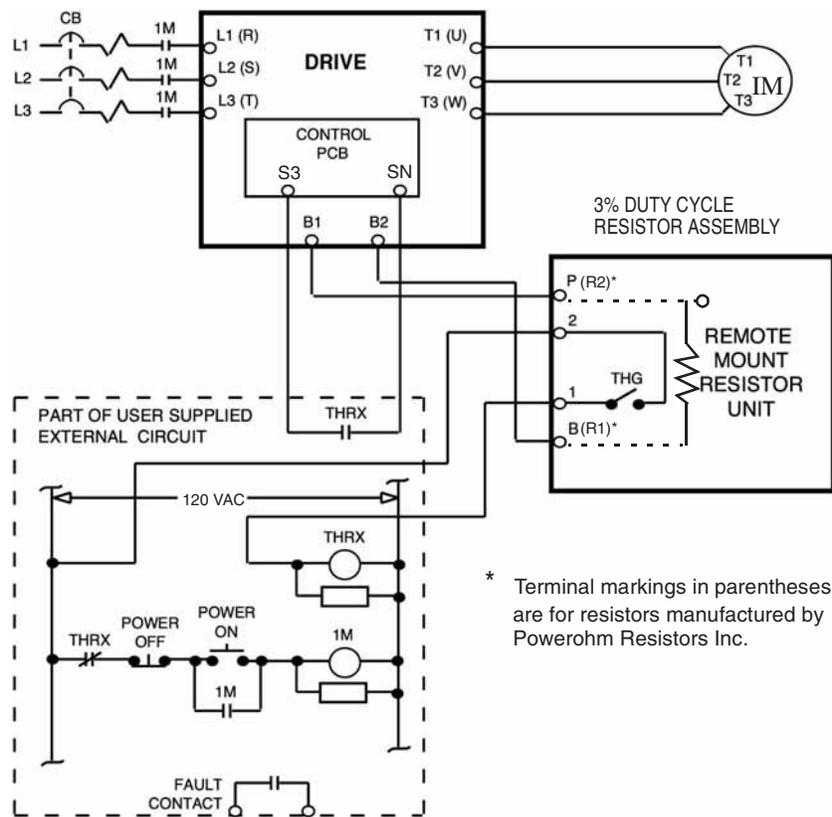

Fig 2.6 Wiring Remote Mount Resistor Unit (for P7U20P4 thru P7U2018 and P7U40P4 thru P7U4018)
2. Remove the Remote Mount Resistor Unit cover to access its terminal block. Connect the Remote Mount Resistor Unit to the Drive and to external control circuitry according to Fig 2.6 below.